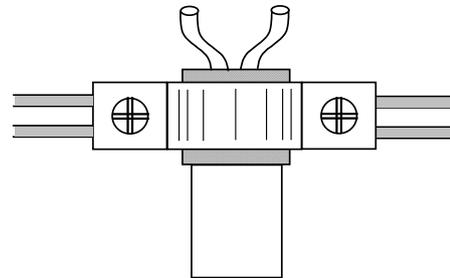

Fig. 3.a
- pass the cable through the cable gland as shown in Figure 3.a